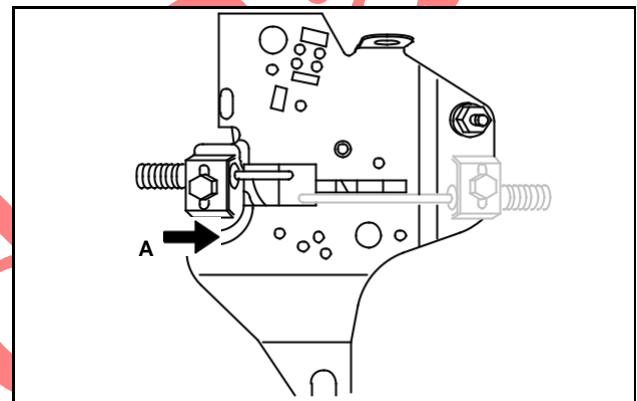

Fig. 66
Adjust remote control cable as shown (A), to increase speed, Fig. 66.